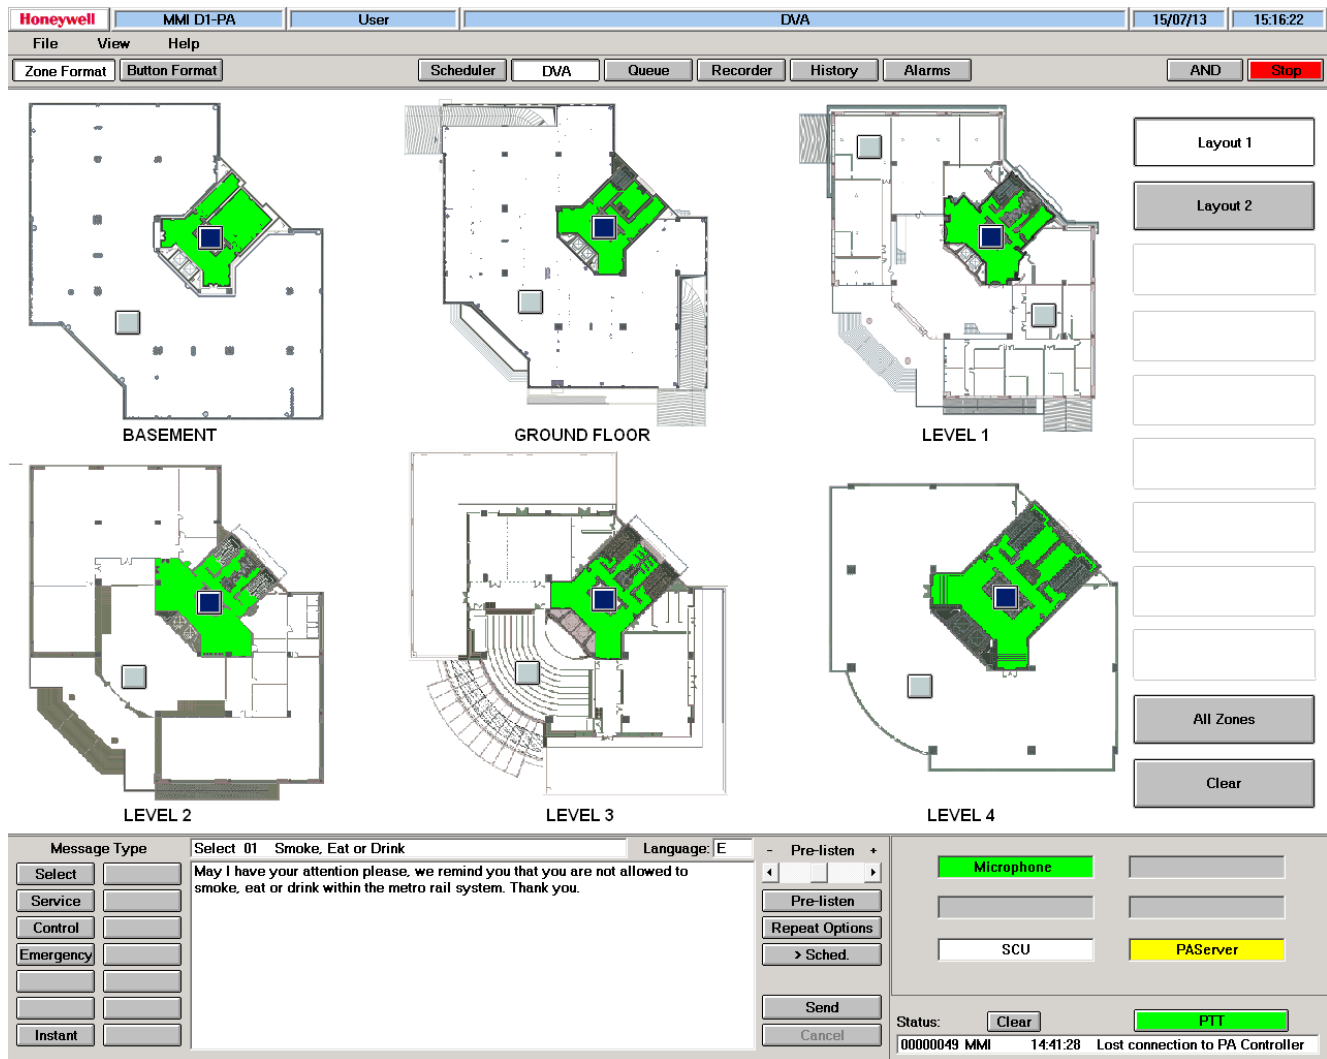
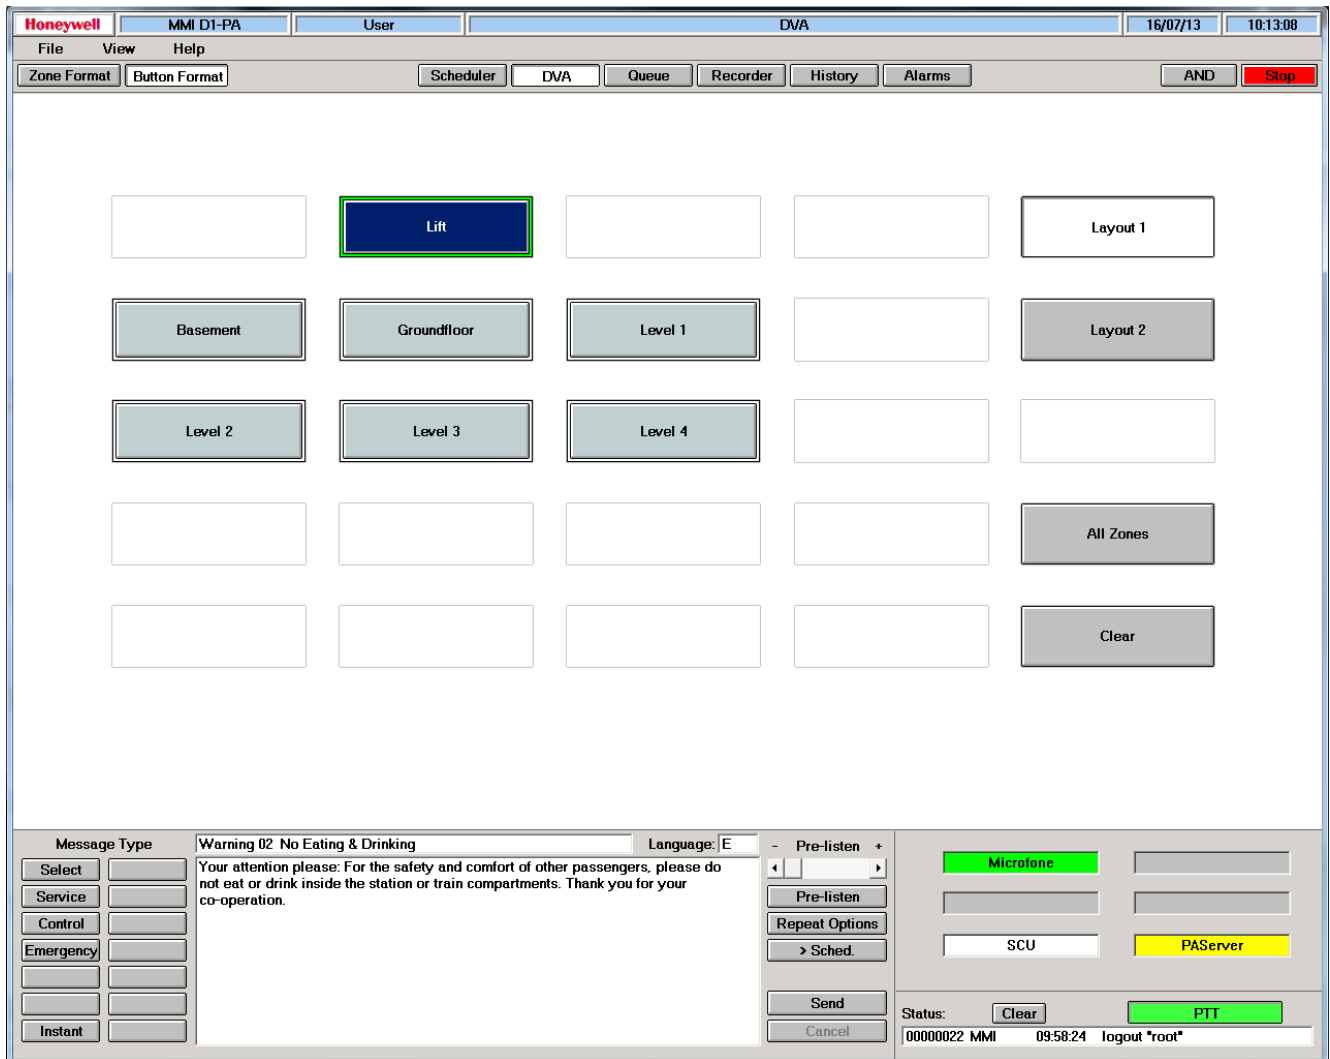

Fig. 27: Layout 1, zone view in graphical format
Fig. 28: Layout 1, zone view in button format
Zone view, graphical format, Layout 1 (see Fig. 27):
Zone view, button format, Layout 1 (see Fig. 28):
Status indicator view, Layout 1 and 2 (Fig. 27, 28, 29):
- At the time of the screenshots in (Fig. 27, 28), an announcement was being spoken via the call station microphone of the PAMMI Plus, which is why the "Microphone" status indicator field is green.
PTT button in Fig. 27 and Fig. 28: